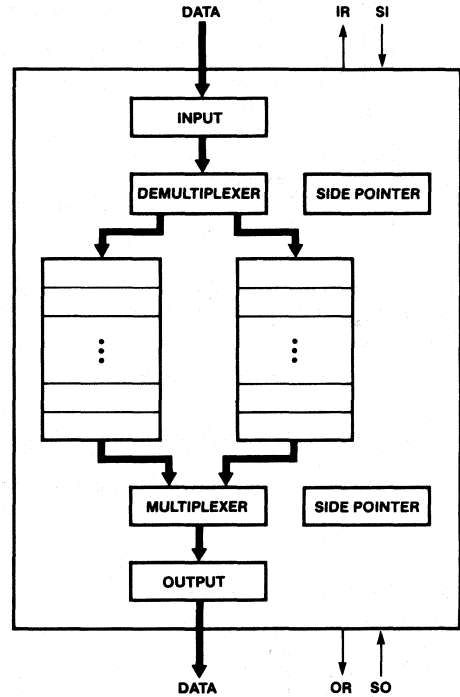

Figure 5. '13 Dual-stack, Hybrid Architecture
- ① Input Ready HIGH indicates space is available and a Shift-In pulse may be applied.
- ② Input Data is loaded into the first word. The Data from the first word is released for "fall-through" to second word.
- ③ Input Ready goes LOW indicating the first word is full.
- ④ Shift-In going LOW allows Input Ready to sense the status of first word. The first word is now empty as indicated by Input Ready HIGH.
- ⑤ If the second word is already full then the data remains at the first word. Since the FIFO is now full Input Ready remains low.
- NOTE: Shift-In pulses applied while Input Ready is LOW will be ignored (See Figure 5).